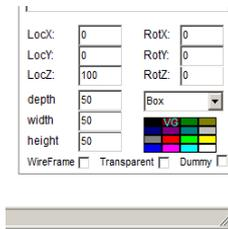

Figure 4: Controls at the bottom of the *Objects to be Checked* pane
- Change the location, the dimensions, the shape, the color and the type of visualization for the item: Make sure that the item is selected in the tree and change the properties of the item using the controls at the bottom of the **Objects to be Checked** pane (see Figure 4 below). “Dummy” items are disregarded by the collision calculation, but can be used as a parent item.